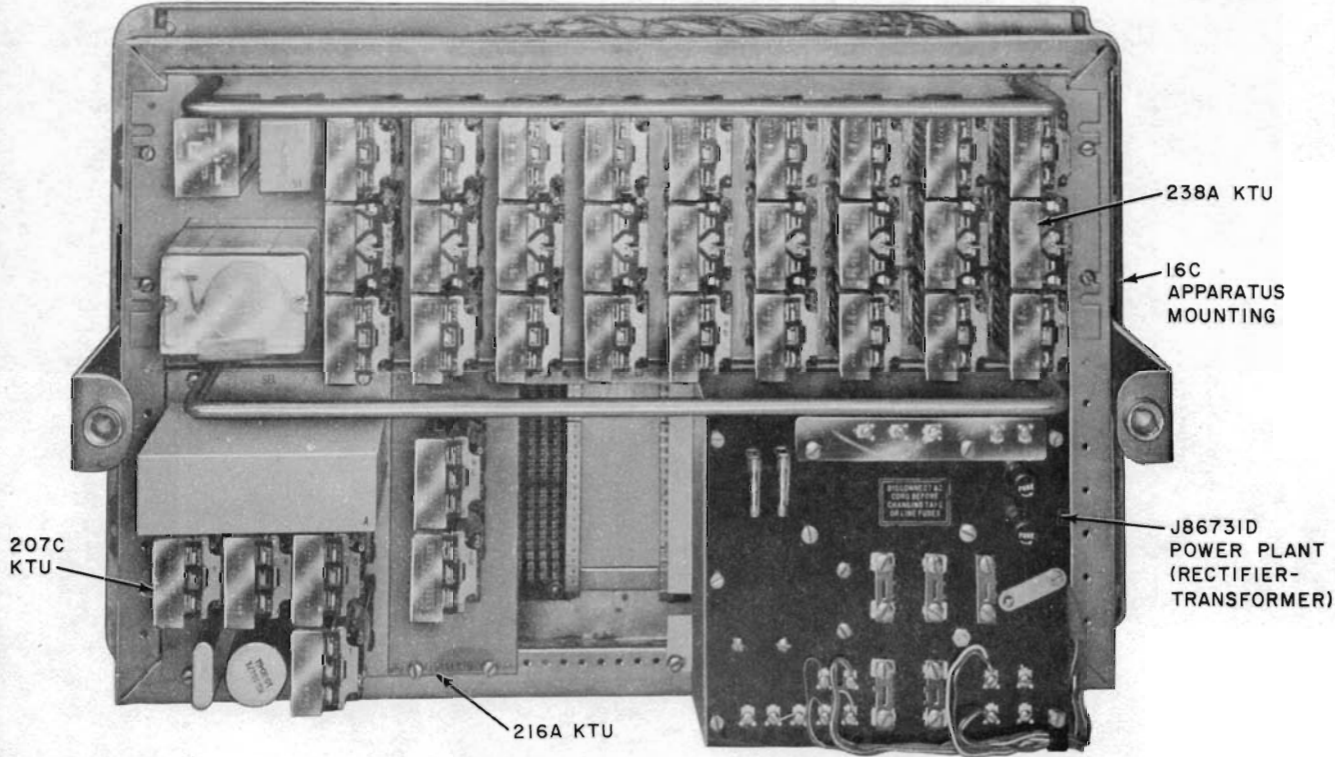
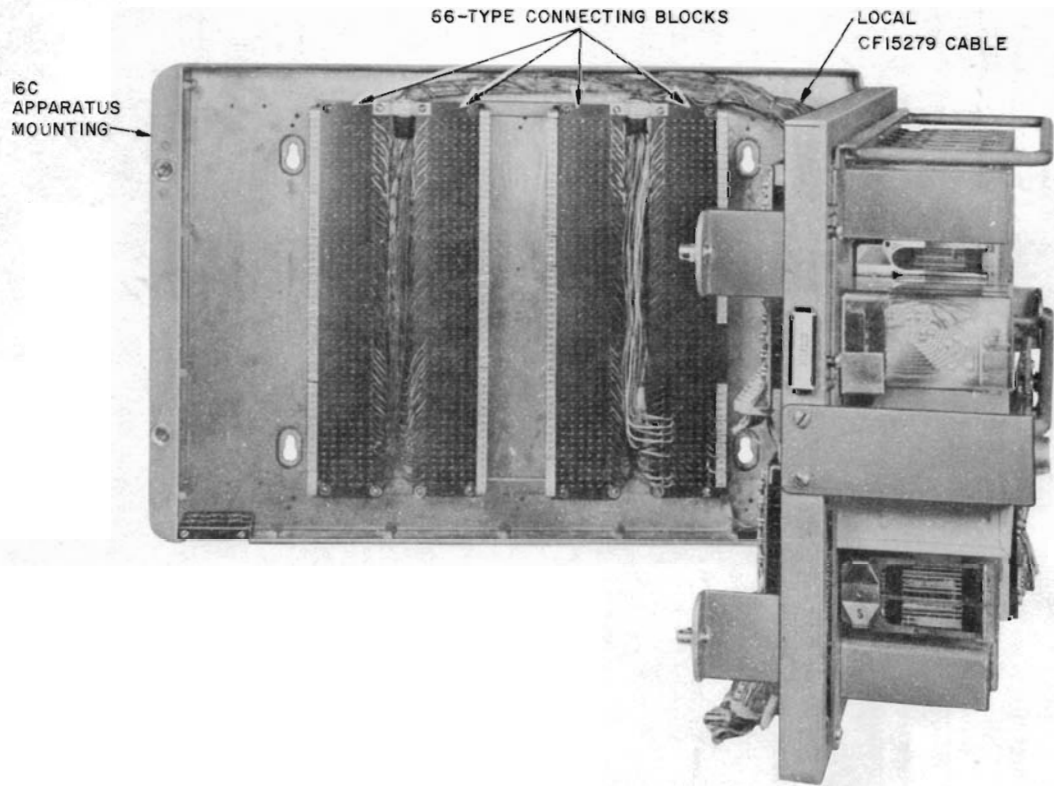

Fig. 7—311A12D KSU, Gate Closed
Fig. 8—311A12D KSU, Gate Open
2.18 Fig. 7 shows the 311A12D KSU with the gate closed and Fig. 8 shows the 311A12D KSU with the 66-type connecting blocks.